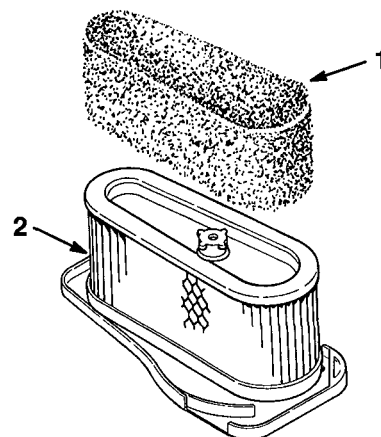

Figure 13
4. Carefully slide the foam element off the paper element (Fig. 13).
1. Carefully slide the foam element onto the paper air cleaner element (Fig. 13).